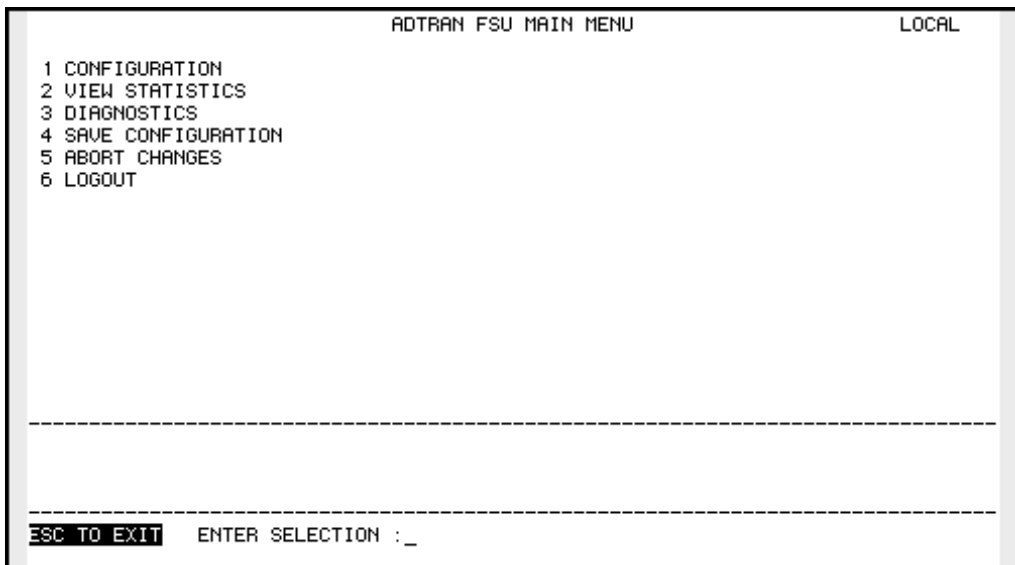

Figure 3-4
5. Enter the password. The factory default password is **adtran**. The Main menu will appear (Figure 3-4).